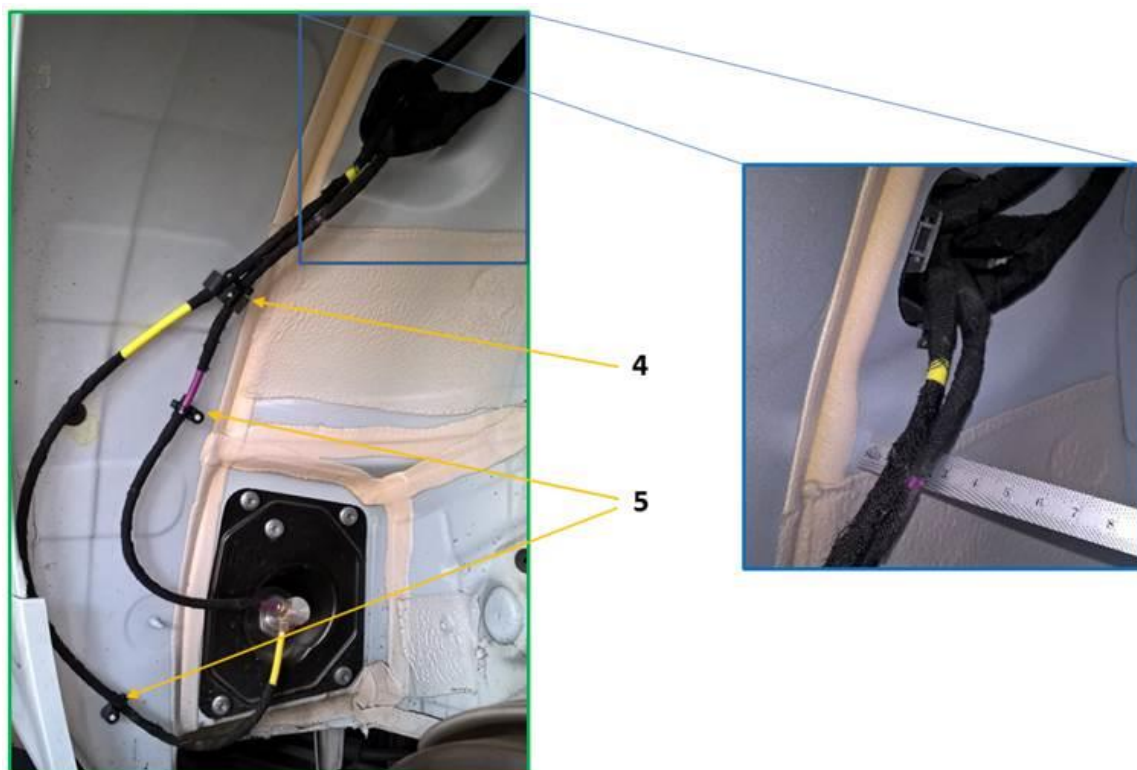

Figure 3. Close-up area: location where the distance between the vehicle body and air hoses should be less than 35 mm.
4. Pull both air hoses down toward the accumulator and clip them in. Secure the hoses with a cable tie above the clip (the distance between the vehicle body and air hoses should be less than 35 mm) (Figure 3).